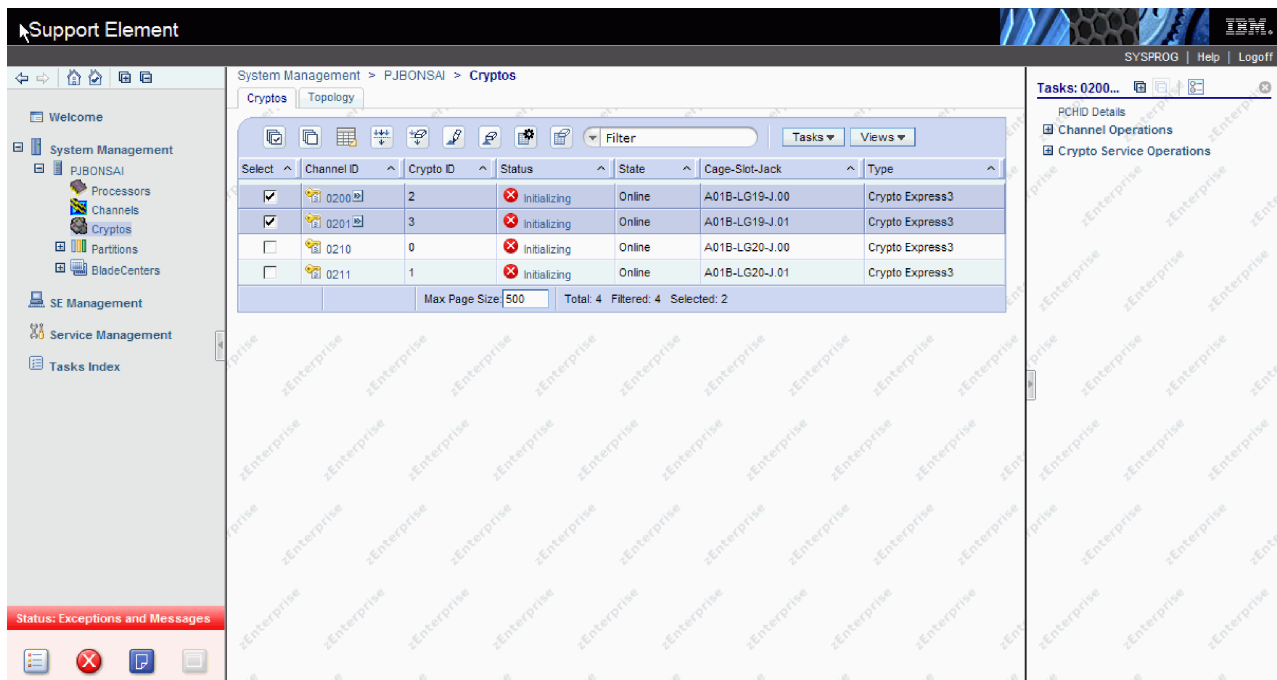

Figure 11. Vertical tasks pad
- **Position tasks pad vertically** - The tasks pad is rendered to the right of the work pane's table frame (see Figure 11 on page 18 for an example).
Figure 11 displays the objects you selected from either the navigation pane tree or the work pane table view. Multiple objects are selected in the work pane table, therefore, the intersection of the selected objects' tasks are displayed.